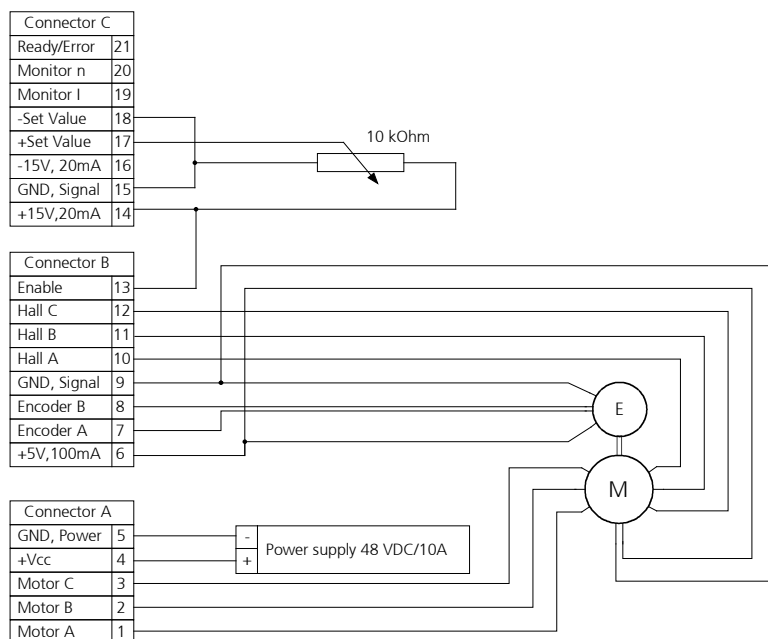

Figure 17
1. Connect the motor cables with a motor control unit (see Figure 17).